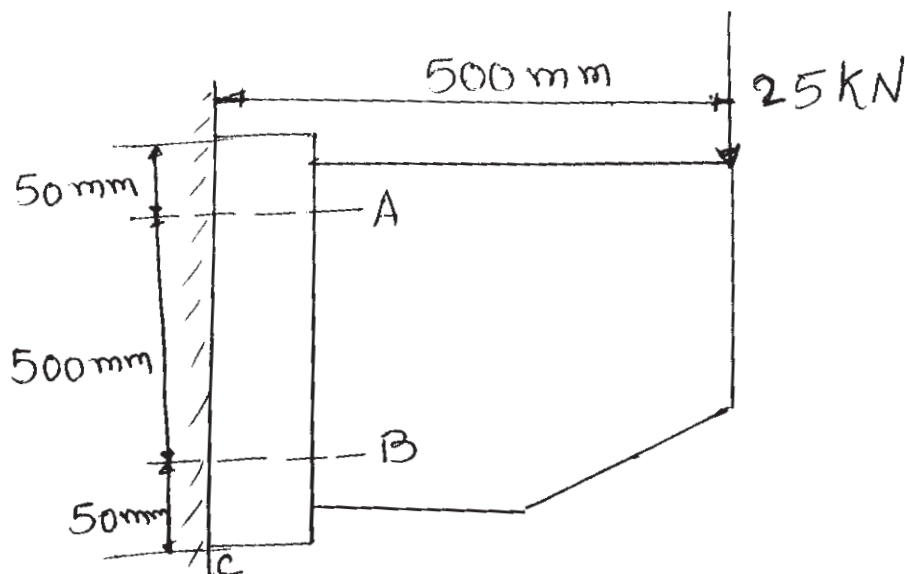

Fig 3B. Bolt (Q. NO 3B)
- b) A wall bracket is attached to a wall by means of four identical bolts. Two at A and two at B, as shown in fig 3b. Assuming that the bracket is rigid against the wall and prevented from tipping about point 'C' by all four bolts and using an allowable tensile stress in the bolts as 35 N/mm^2 . Determine the size of bolts on the basis of maximum principal stress theory. [8]